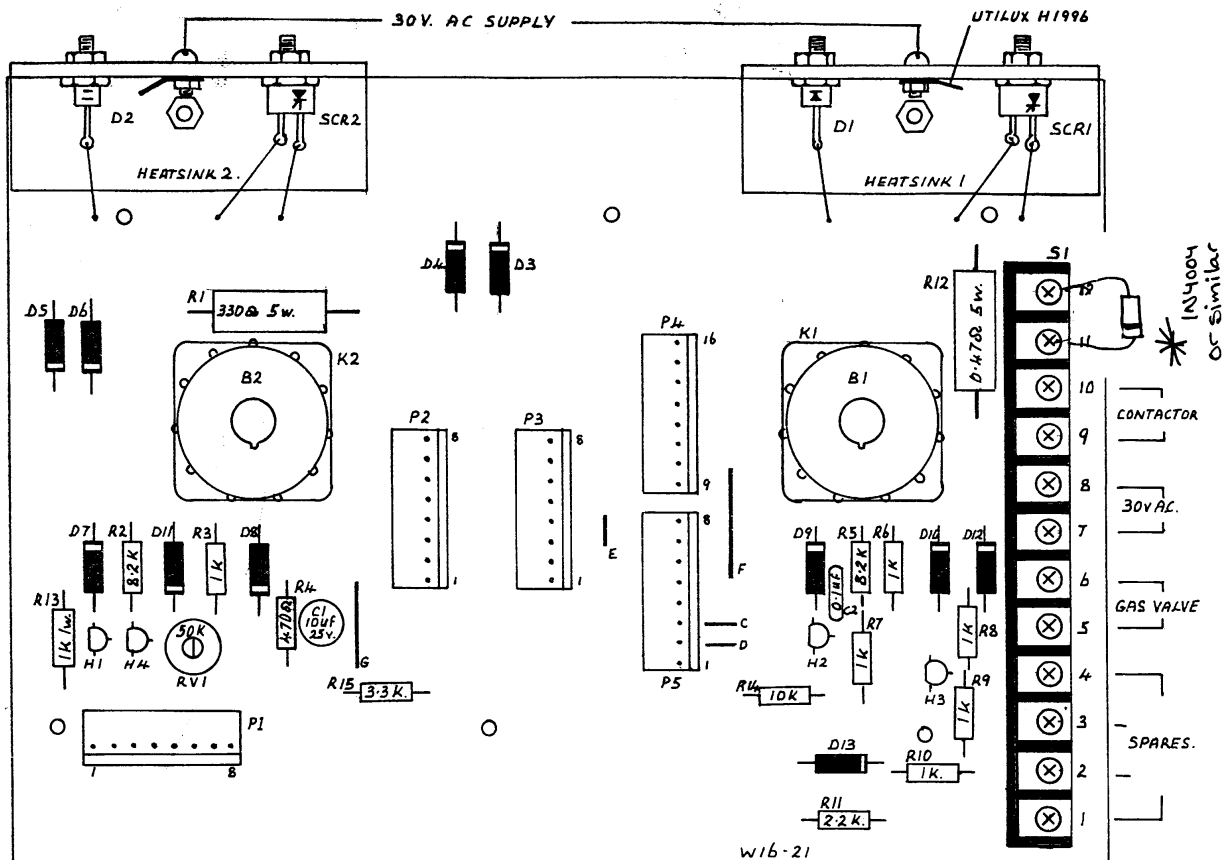

Fig 1 W16-21 Motherboard
- Fit a flywheel diode (1N4004 or similar) across the motor terminals as shown in Fig 1. Observe correct polarity.